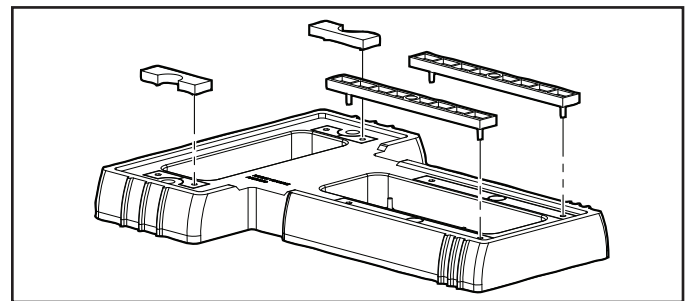

Figure 7. Snap Spacers into Place
- Align the pins in the four spacers with the holes in the base. Snap the spacers into place. See Figure 7.